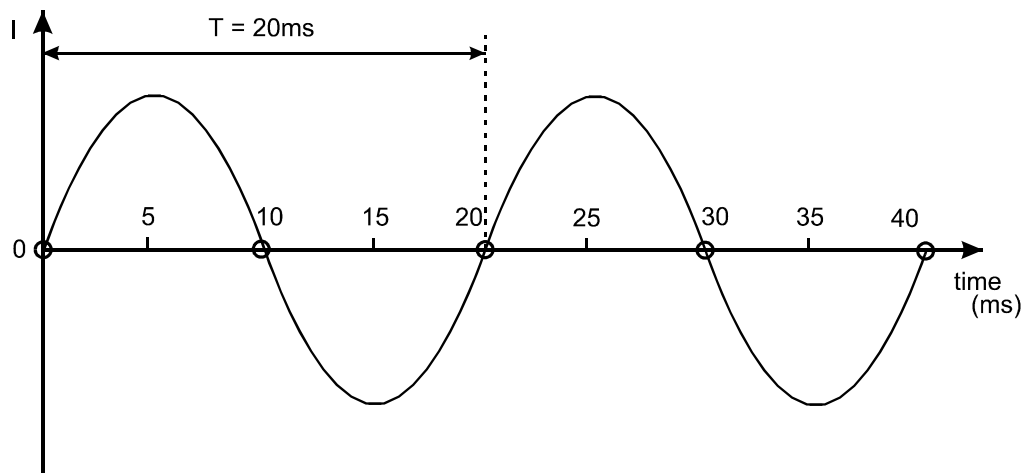

Figure 1.18
- **A period** is the smallest interval of time taken for the sine wave to complete one full cycle. When the cycle is completed, the sine wave begins to repeat the quantities of the current in the same sequence. For example, let us take the maximum positive value of the sine wave as a starting point. The smallest time taken for the sine wave to revert back to the maximum positive value, is called the **period** of this sine wave. After that, the sine wave begins to repeat the same values in the same sequence. A period is designated with the letter **T**, and is measured in seconds. Figure 1.18 shows a waveform with a period of 20 ms.
It is not difficult to calculate, using the formula above, that the sine wave in Figure 1.18 has a frequency of 50 Hz. This is the frequency of the mains voltage in most countries around the world, including Australia. In the USA the standard is 60 Hz.